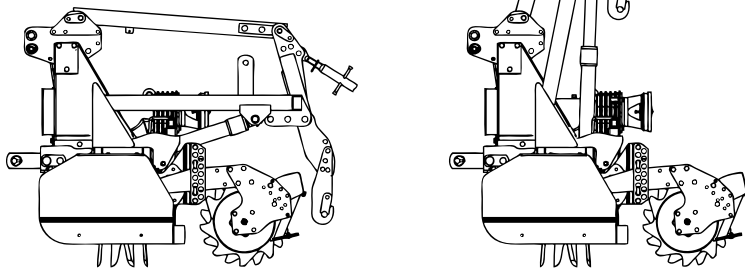

Fig. 8
4.4 MACHINE COMBINÉE AVEC UN SEMOIR (Fig. 8)